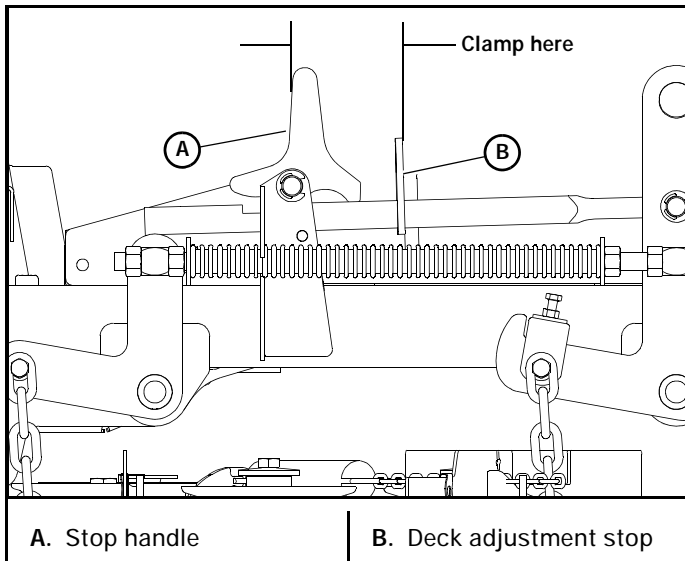

Figure 6-3
5. Clamp the height adjusting stop against the stop handle. This will assure that the height will not move during the setting process. Otherwise, spring pressure from the deck lift springs will tend to pull the stop away from the handle. Figure 6-3